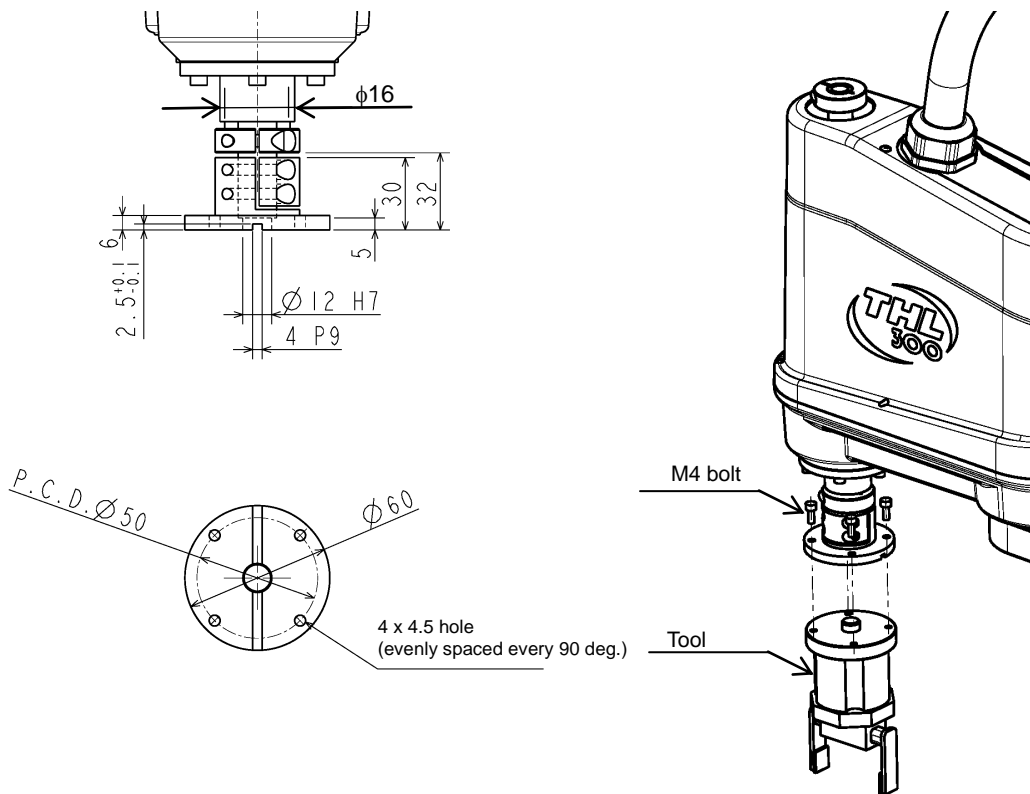

Fig. 16.1 Tool mounting dimensions (THL300 and THL400)
The tool is mounted on the end of the tool shaft. Dimensions of the tool shaft section are shown in Fig. 16.1. As shown in Fig. 16.1, the tool is centered with the  $\phi 12H7$  mating section. The tool direction is adjusted by means of the 4 x 4 keys and secured with four (4) M4 bolts.